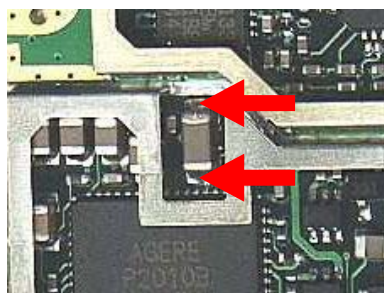

Fig. 3.2
- Check the voltage of two extremities on capacitor C119 (Fig. 3.2).